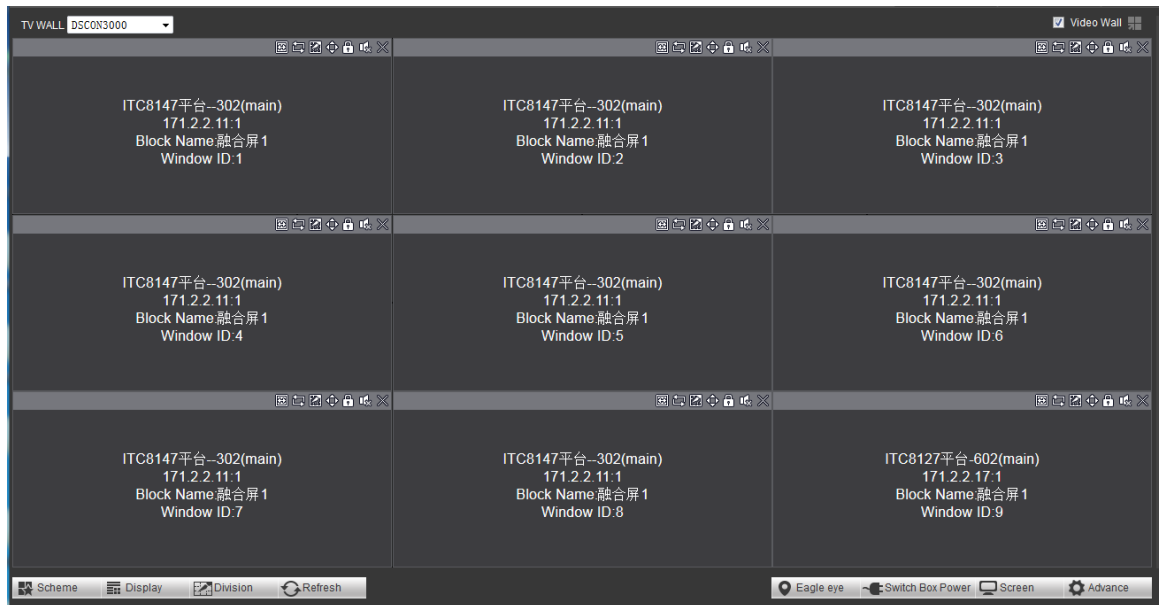

Figure 3-15
- The system displays split blocks, as shown in Figure 3-15.